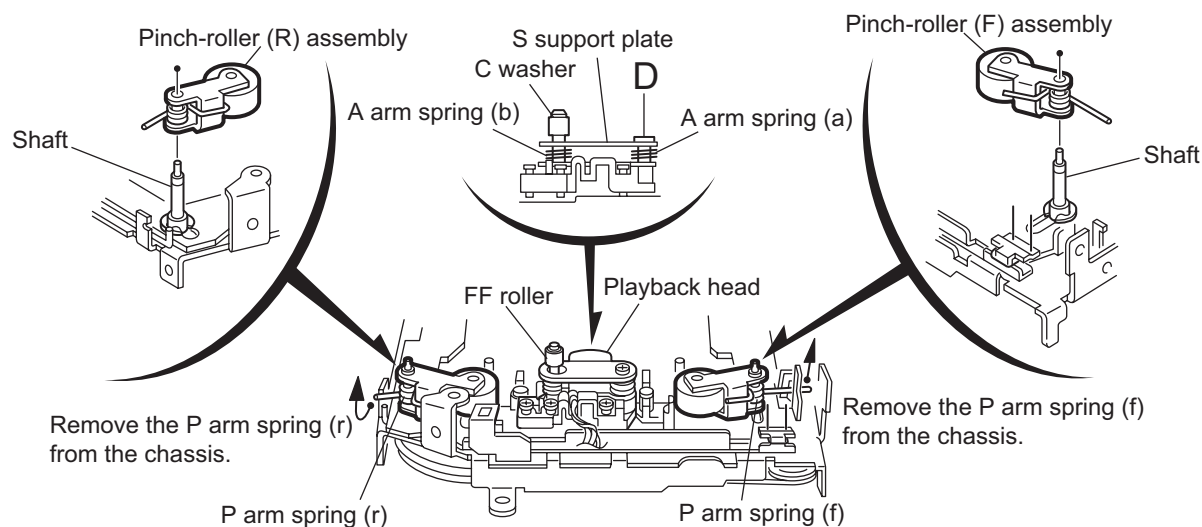

Fig.2
2.2.4 Removing the playback head (See Fig.2)
2.2.5 Removing the pinch-roller (R) and (F) assembly (See Fig.2)